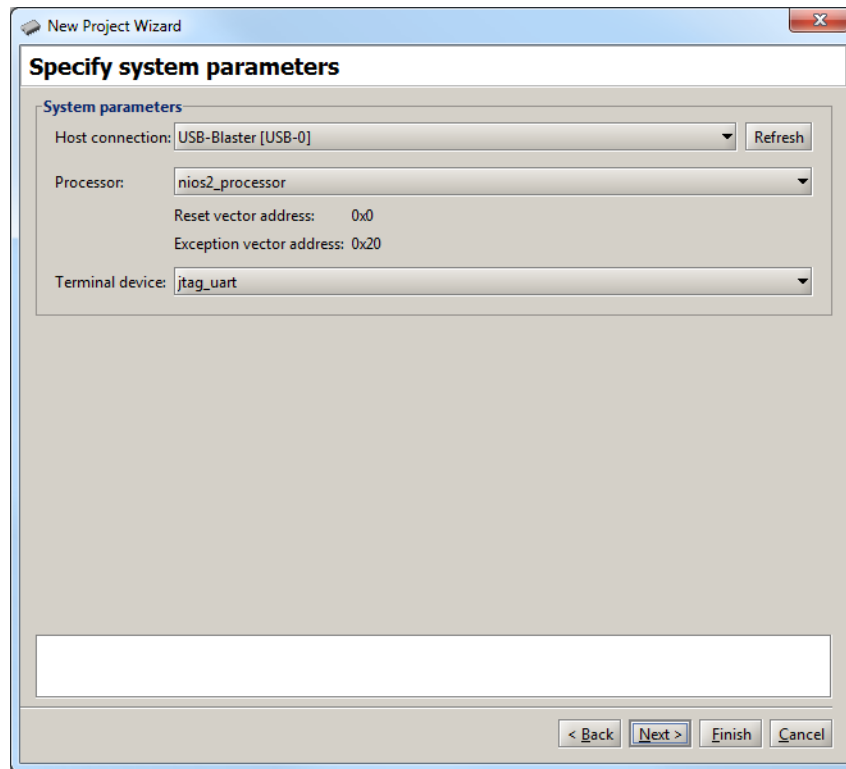

Figure 31. Specify the system parameters.
7. The Monitor Program also needs to know where to load the application program. In our case, this is the memory block in the FPGA device. The name assigned to this memory is *onchip_memory*. Since there is no other memory in our design, the Monitor Program will select this memory by default, as shown in Figure 31.